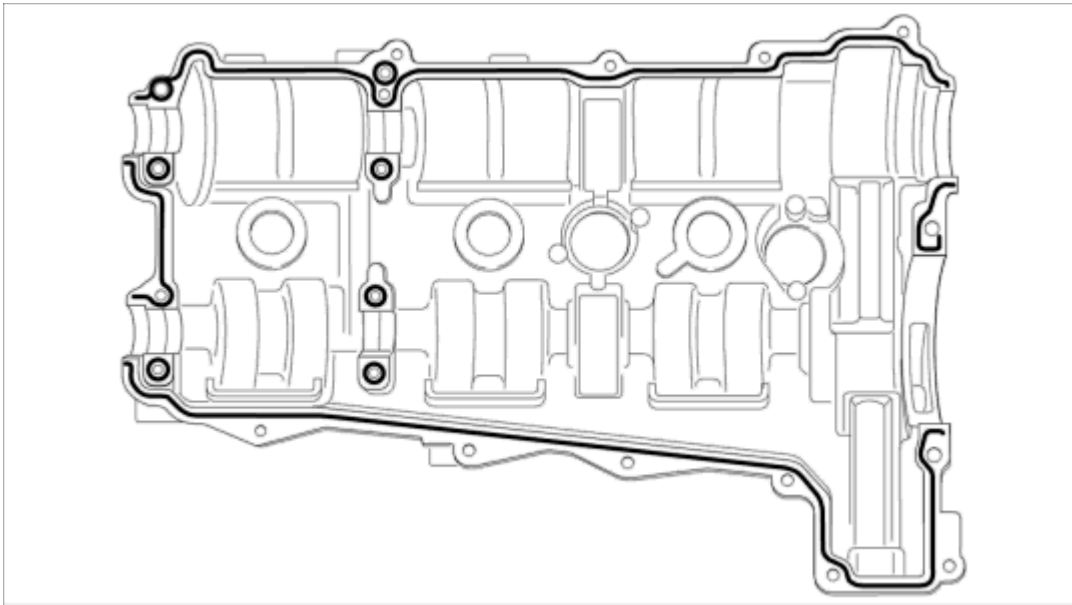

Fig. 218: Sealant application cylinder head cover
2. Prepare cylinder head cover for assembly. Apply a thin bead of sealant on the cylinder head cover (not higher than 1.5 mm). --> *Sealant application cylinder head cover* . See **Fig. 218**.